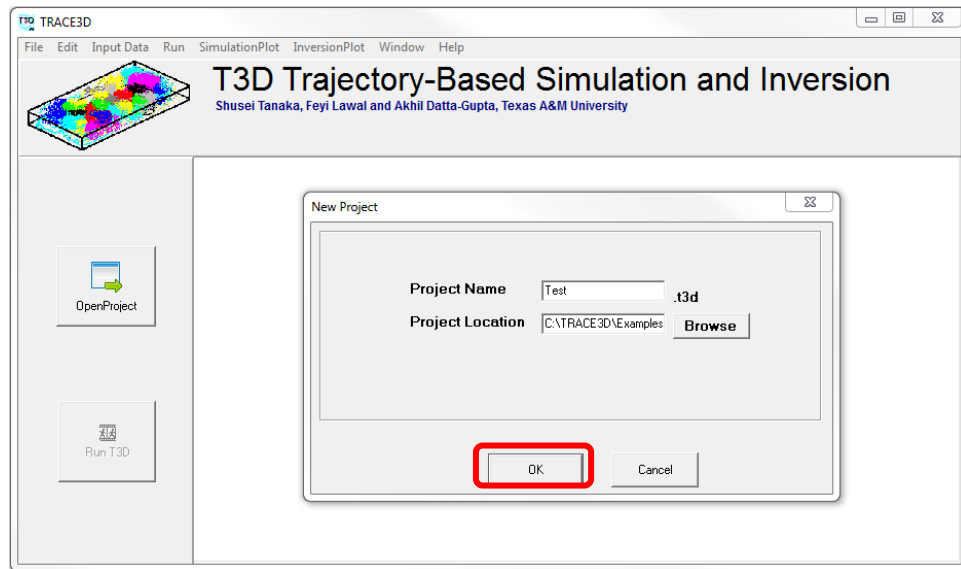
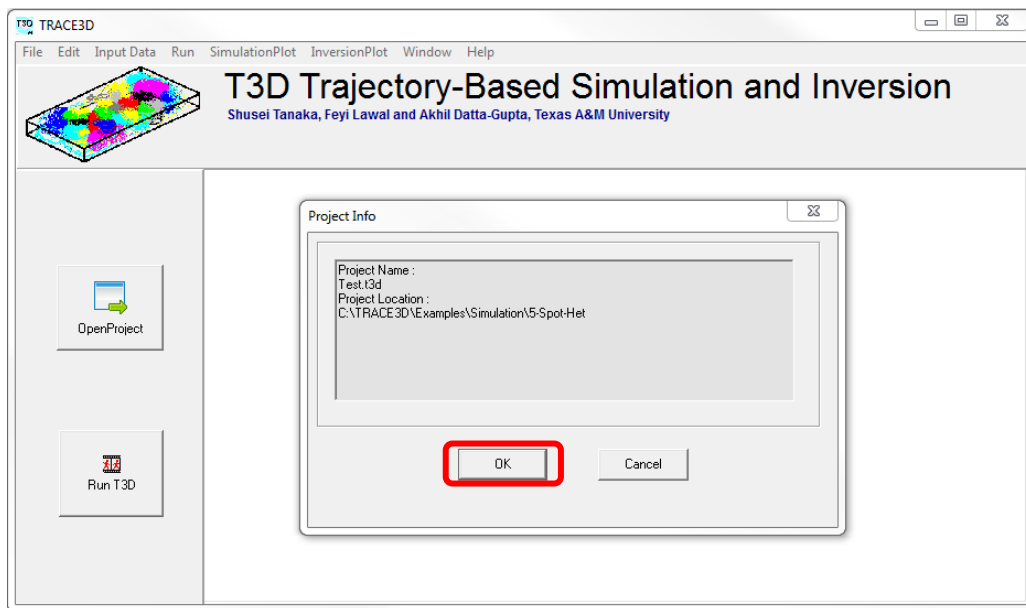

Figure 4: A New Project is Created
Figure 5: Project Location Information Panel
4. Once location for the new project is specified, Click **OK** (**Figure 4**). A panel with project information will appear (**Figure 5**). Click **OK** to close it.